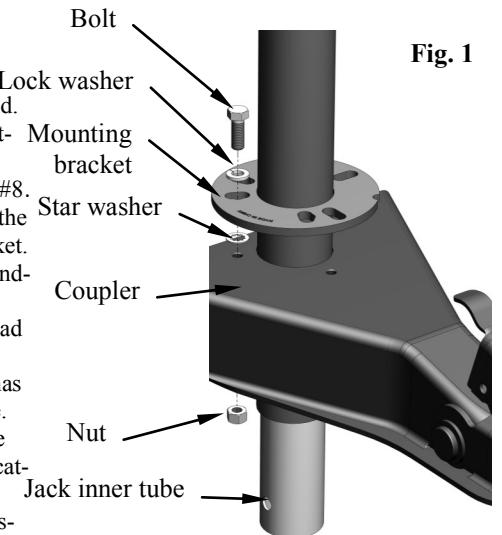

Fig. 1
8. Attach the jack using the three (3) 3/8" diameter, 1" long, grade 5 bolts and nuts (provided). Use the provided lock washers, placing them between the bolt head and the top of the jack mounting bracket. Star washers are used to insure a metal-to-metal contact between jack and coupler for proper grounding (Figure 1). Torque bolts to 15-20 ft-lbs.
2. Remove lynch pin and drop leg from jack assembly. If your jack is already installed, you may need to remove the jack mounting hardware (Fig. 1) in order to do this.